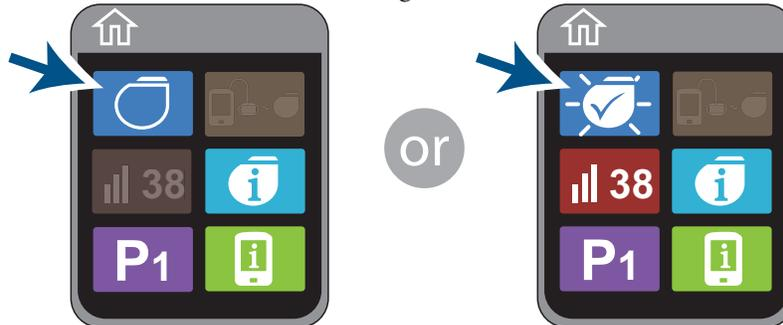

Figure 7. Stimulator Off and Stimulation On buttons
1. Tap  or  on the Home screen (*Figure 7*).